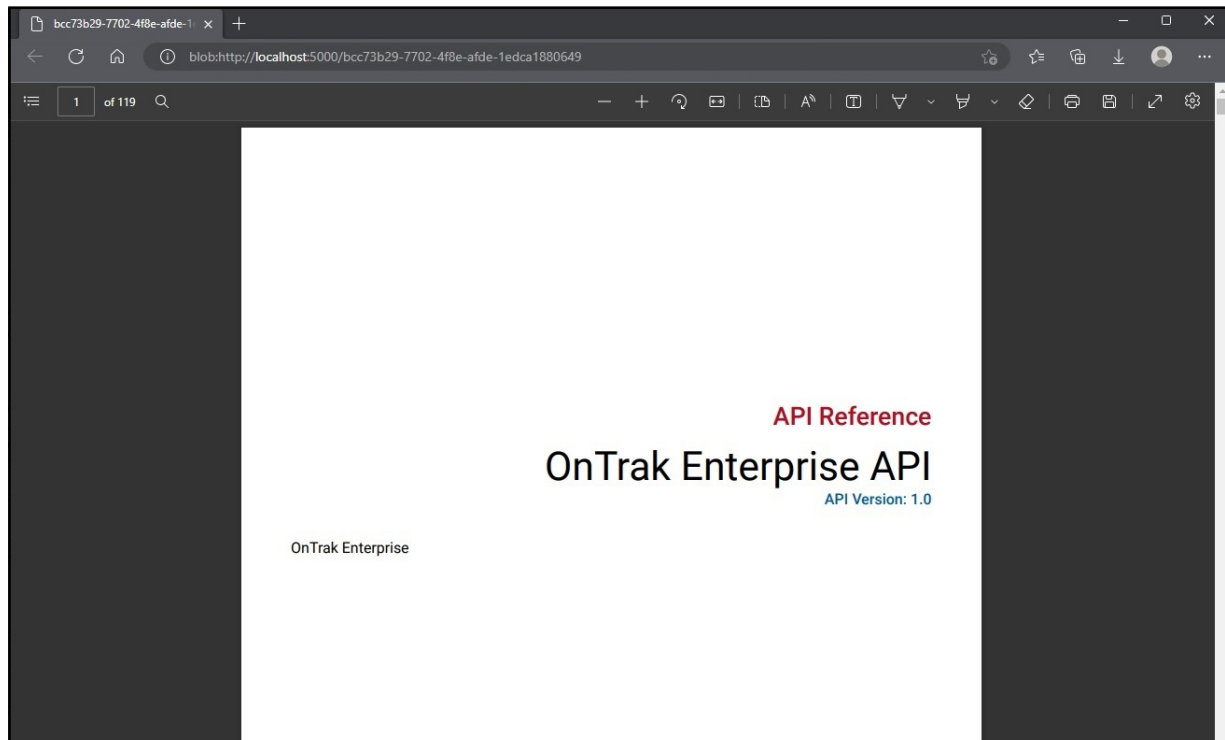

Figure 13-3. API Document Opened In Internet Browser
5. Review the API documentation (see Figure 13-3 on page 155).